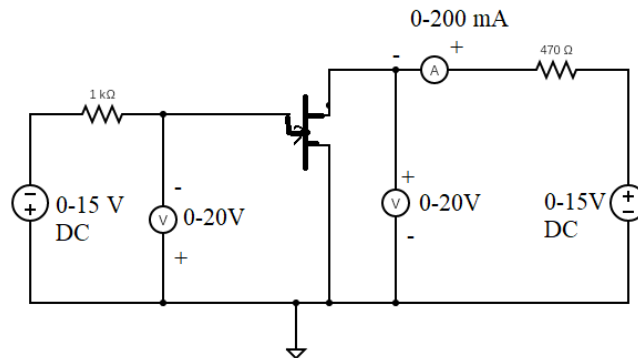

Figure 13.1: Circuit Diagram for FET Characteristics
1. Connection is made as per the given Figure 13.1.